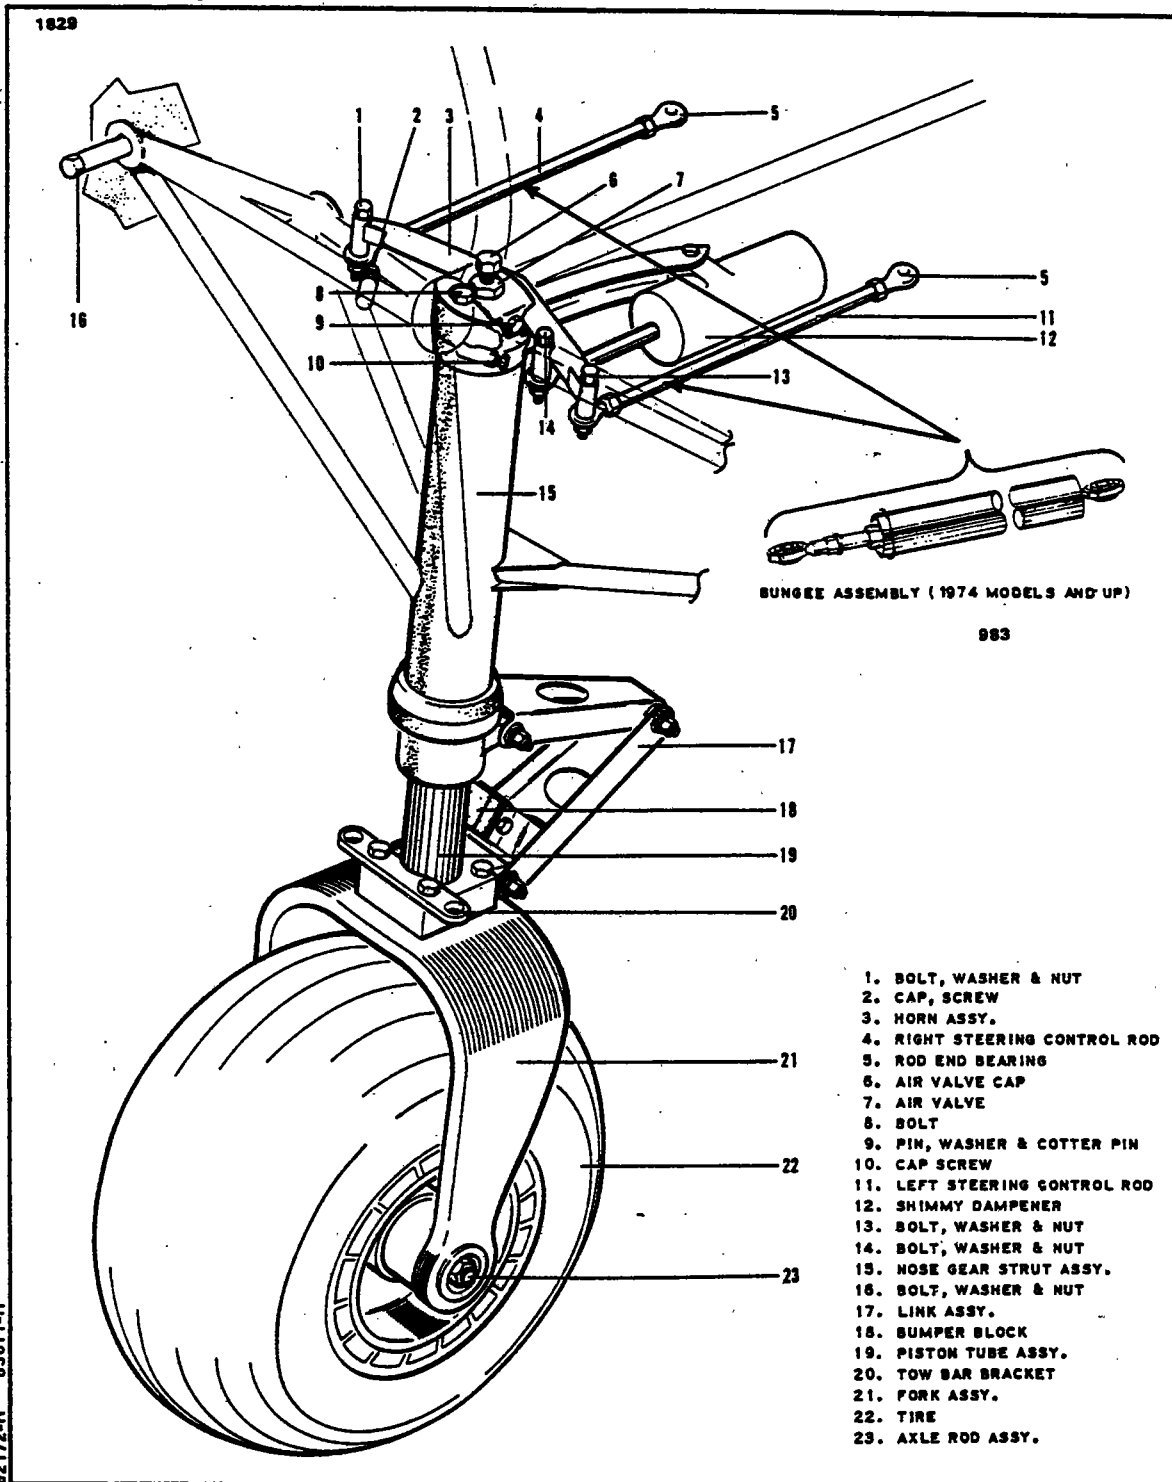

Figure 7-2. Nose Gear Installation
- e. Position the snap ring (11) on the upper end of the piston tube.
- f. Insert the piston tube with bearing assembly in the cylinder tube (9). Secure it with the retainer ring (10) in the annular slot at the bottom of the tube.
- i. Position washer (2) and strut assembly retainer nut (1) on top of the strut housing. Insert the strut assembly up through the washer until it contacts the nut. Tighten the nut to a snug fit.
- k. Install the steering horn attaching bolt through the top of the horn into the strut assembly. Do not tighten bolt at this time. If a space appears between the steering horn plate and the top of the strut assembly, it will then be necessary to install spacer washer(s), (AN960-416L), between the horn and strut. Then tighten the bolt and safety the bolt to the strut assembly retainer nut (1) with MS20995C40 wire.
**7-10. REMOVAL OF NOSE LANDING GEAR. (Refer to Figure 7-2.)**
- e. Disconnect the two steering rods (1 and 4) at the nose gear horn assembly (3) by removing the cotter pins, nuts, washers and bolts.
- g. Remove the nose gear and engine mount by removing the five bolts (16) which attach the mount to the firewall.
**7-12. INSTALLATION OF NOSE LANDING GEAR. (Refer to Figure 7-2.)**
- b. Attach the two steering rods (1 and 4) to the nose gear steering horn (3) with bolts, washers and nuts (1).